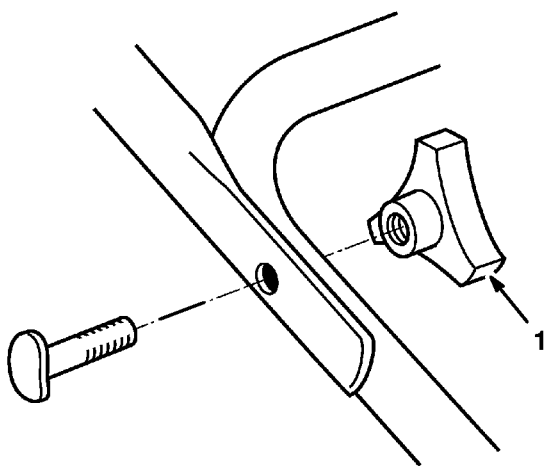

Figure 44
1. Remove the right side handle knob and reinstall it on the outside of the handle (Fig. 44 and 45).